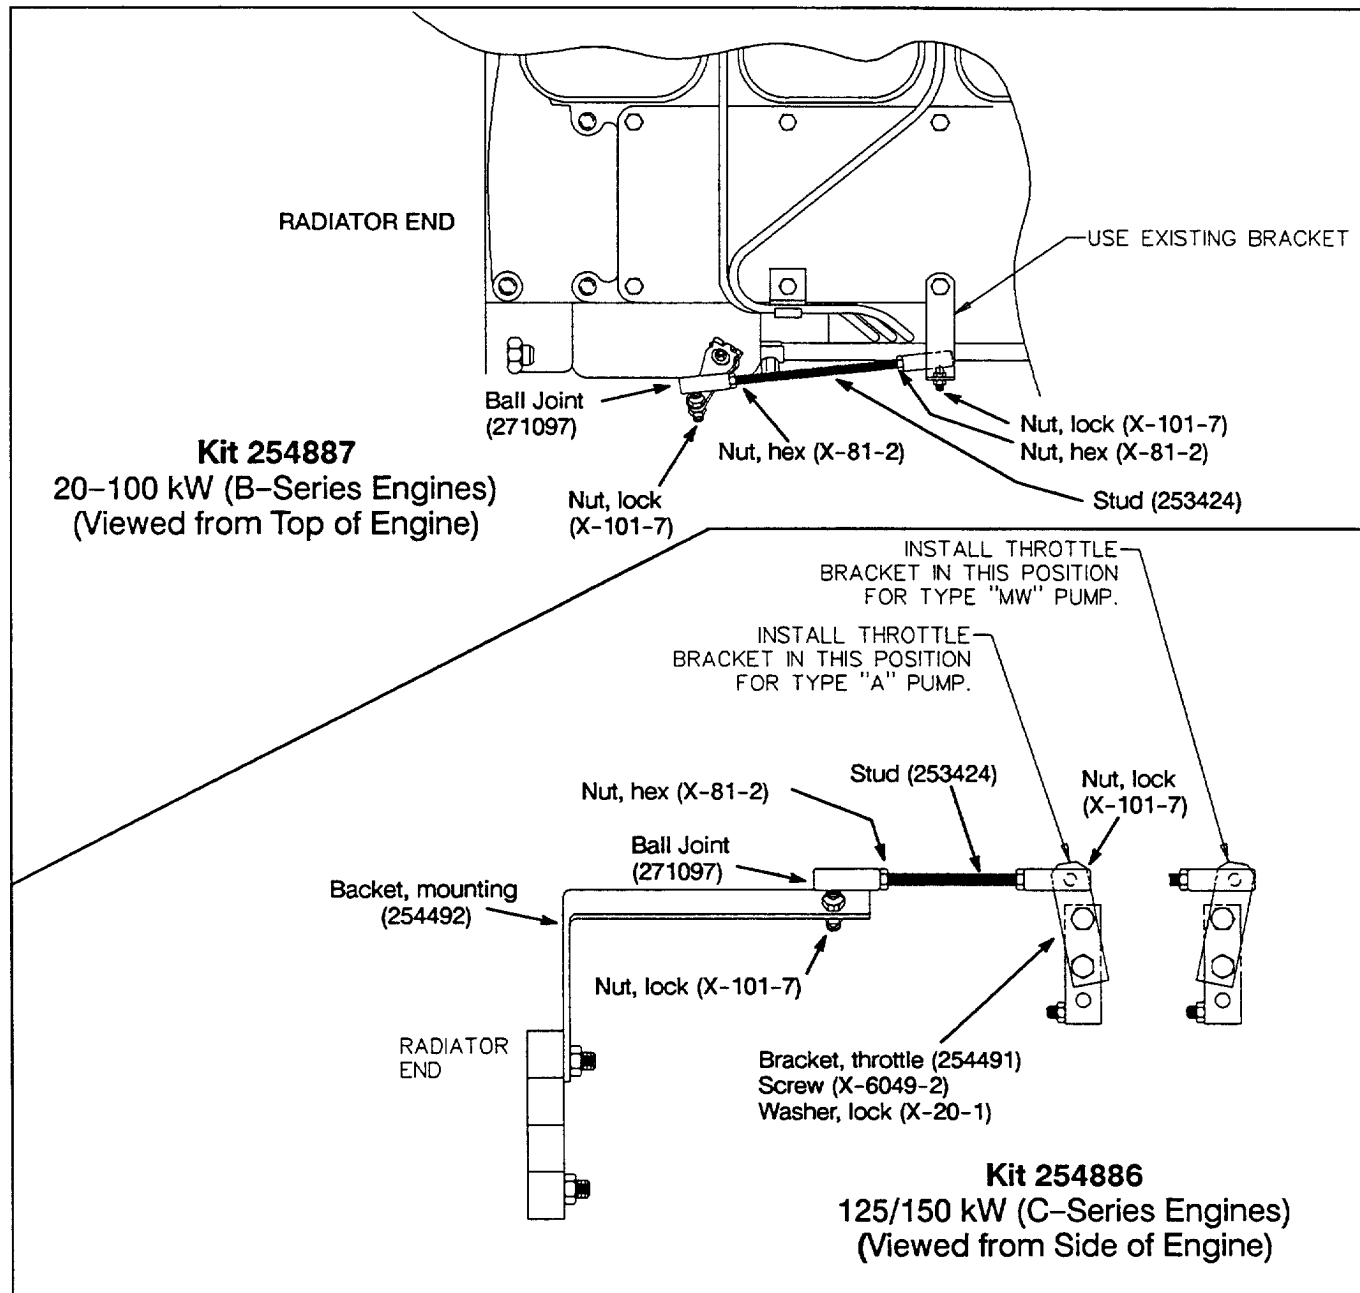

Figure 1. Throttle Repair Kits
The throttle repair kits replace the governor throttle spring with a ball joint linkage to hold the governor throttle lever in the full-open position. (See Service Bulletin 496.) Observe the following safety precautions during kit installation. Reference the appropriate installation drawing in Figure 1 to identify and assemble kit components.
3. **(Sets with C-series engines only).** Remove hardware securing spring bracket to engine block and throttle bracket to governor arm. Discard brackets. Using existing hardware, install new mounting bracket (254492) as shown in Figure 1. Attach throttle bracket (254491) to governor throttle arm with hardware supplied. If the set is equipped with a type "A" injection pump, the throttle bracket should be installed in 11 o' clock position (as viewed from side of engine). The throttle bracket should be installed in 1 o' clock position on type "MW" pumps. Refer to the fifth or sixth character (typically) in the alphanumeric code on the injection pump to determine pump type.
linkage to governor throttle arm with hardware indicated in Figure 1. Do not connect linkage to mounting bracket until next step.